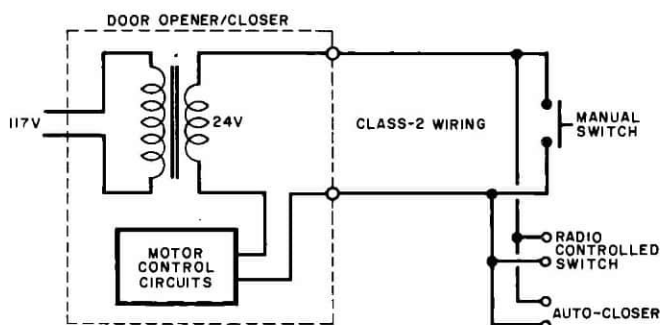

Fig. 2. Class 2 wiring of a typical garage door opener.
**The Door Opener.** A typical garage door opener employs a "Class 2" wiring system. Basically, this means that the control system comprises a low-voltage supply (usually 24 volts ac derived from a step-down transformer), a control relay which applies power to the motor, and one or more activating switches. The low-voltage power supply cannot cause any serious accidental shocks and permits the use of relatively inexpensive bell wire in connections to the activating switches and relay. A typical system schematic is shown in Fig. 2.